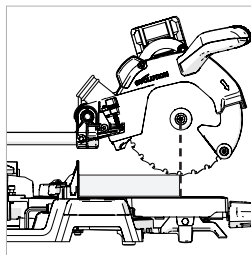

Fig. 39
- Grasp the Cutting Handle and pull the cutting head forward until the arbor (centre of saw blade) is over the front edge of the work-piece. (**Fig. 39**)